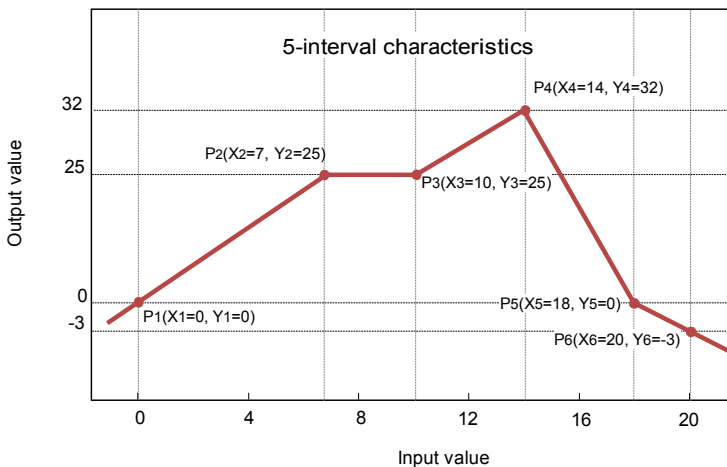

Fig. 7.34. Example of user characteristic
d) user char. - is defined as set of X-Y points. Number of the points is variable and may be set from 2 to 20 points which make linear segments (see Fig. 7.34). After choosing this option, parameter appears:
,where 'slope' and 'offset' are coefficients of a segment contained between two points (see Fig. 7.34), and $n = 1, 2 \dots$ is the number of the segment.
Steps to create a user characteristic consisting of 6 points (like on Fig. 7.34):